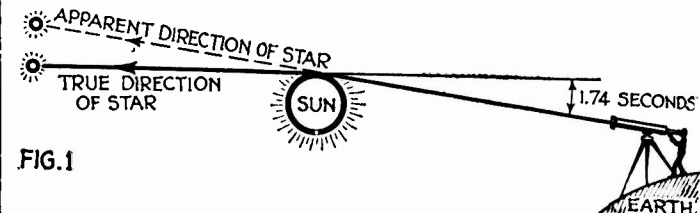

FIG. 1
- A beam of starlight, grazing the edge of the sun, will by Einstein's calculations suffer a deflection of 1.74 seconds of arc. (Figure 1.) Since the sun is ordinarily so brilliant, no star can be observed close to it, except at those rare times when its shining disk is completely covered by the moon. That is why astronomers travel to the end of the earth in order to observe these eclipses. On May 9th, last, such an eclipse occurred, total in Sumatra, the Malay peninsula, and the Philippine Islands. It is far too early to report the observations, but many new attempts to check Einstein's theory were made at the time.